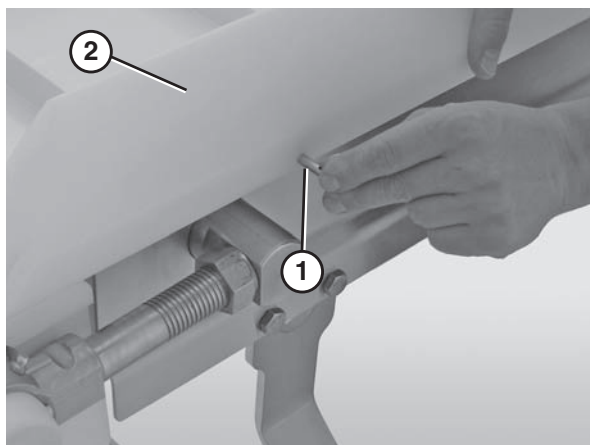

Figure 19
3. Insert the pull pins (**Figure 19, item 1**) into the holes in the guide (**Figure 19, item 2**).